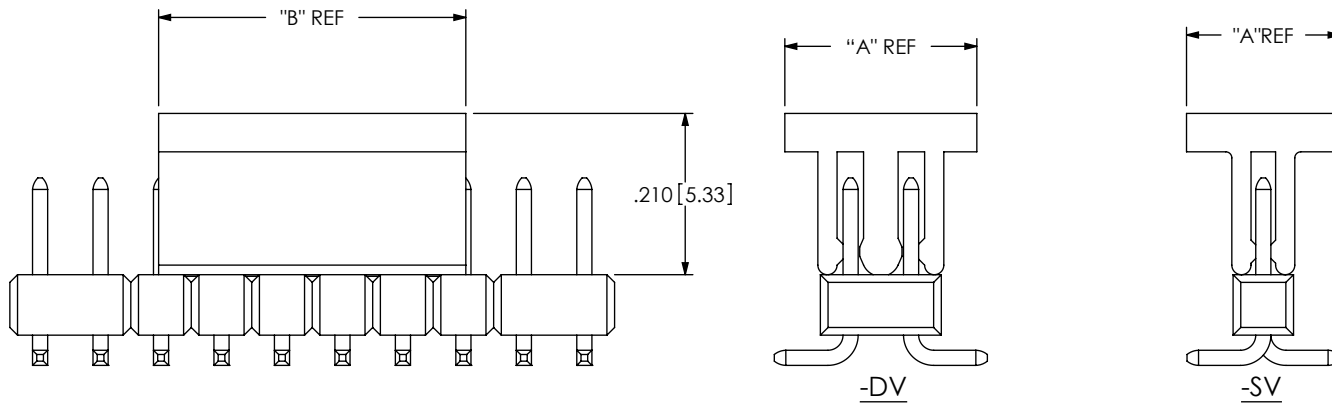

FIG 6
-P: PICK & PLACE PAD (SEE FIG 6, SHT 3)